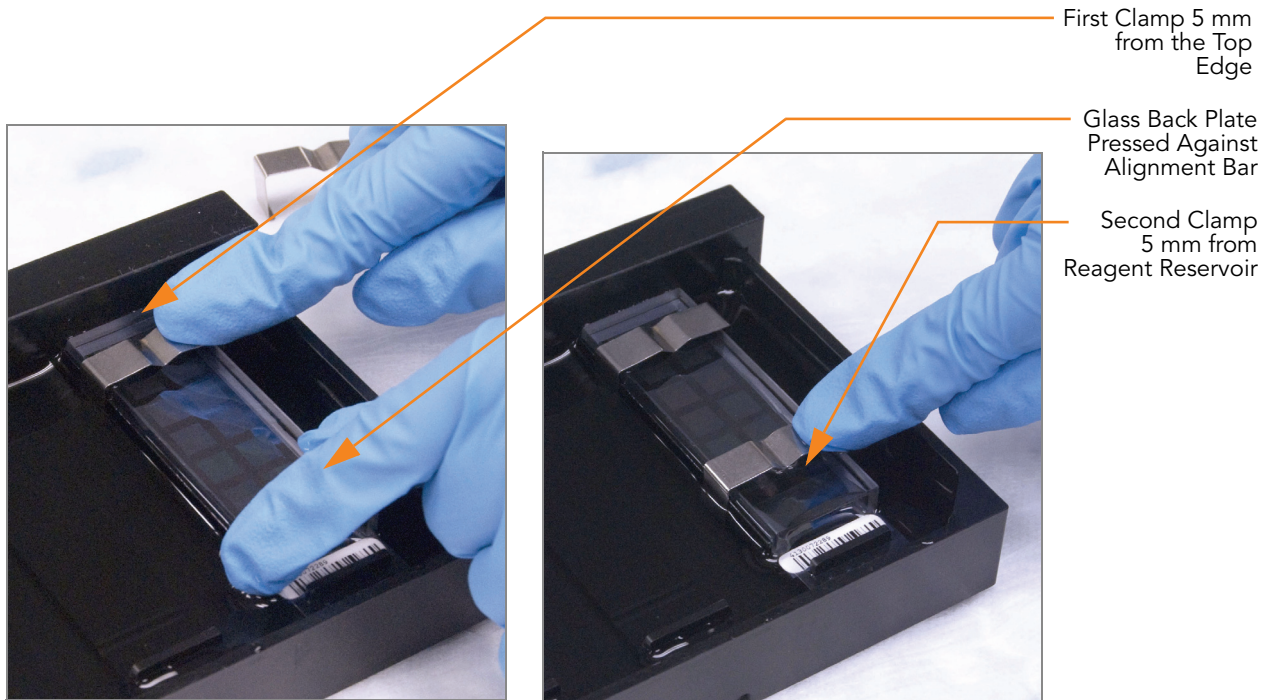

Figure 59 Securing Flow-Through Chamber Assembly with Metal Clamps
8. Attach the metal clamps onto each Flow-Through Chamber as follows (Figure 59):